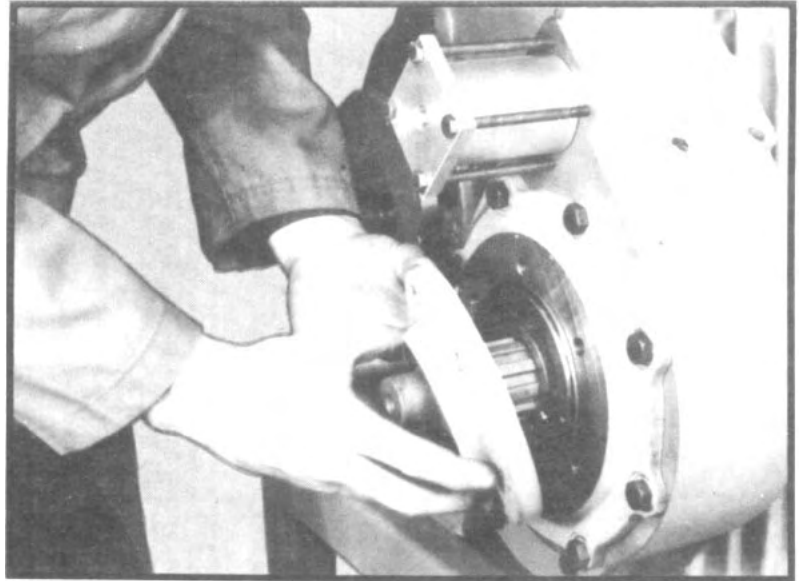

Fig. 8
3. Remove capscrews from seal carrier. Tap carrier to loosen and remove. (See fig. 8.)